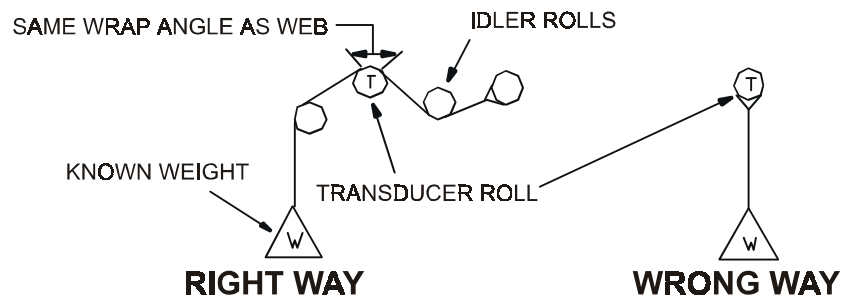

Figure 5 - WEB PATH
- c. Hang the test weight from the sensor roll. Thread a length of rope over the center of the roll. Be sure to follow the exact path of the web. The rope must extend from the roll before the sensing roll to the roll after it. See Fig. 5. Rope may pass additional rollers but not nips or drag bars/rolls.